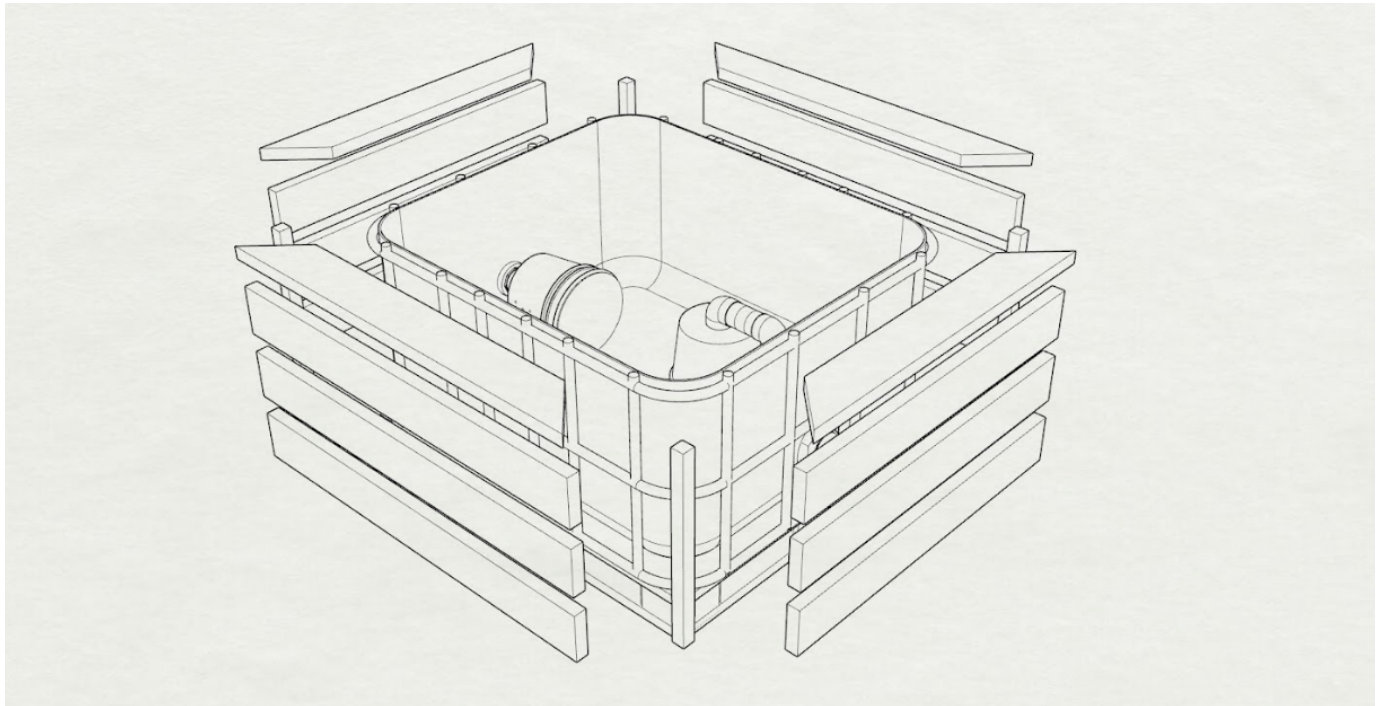

Fig. 1
• Figure 1 - Our greywater model (Pages 3)